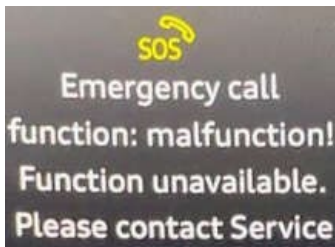

Figure 1: Emergency call warning message.
- The message “SOS Emergency Call function: malfunction. Function unavailable. Please contact service” (Figure 1) is displayed on the instrument cluster.